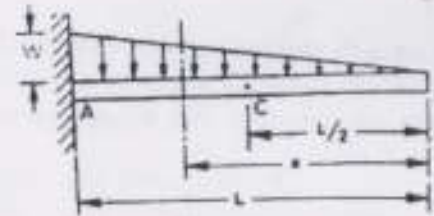

Figure 4
4. Find deflection at mid span of the cantilever beam in Figure 4 using virtual work method. Assume flexural rigidity constant throughout the length. (10)